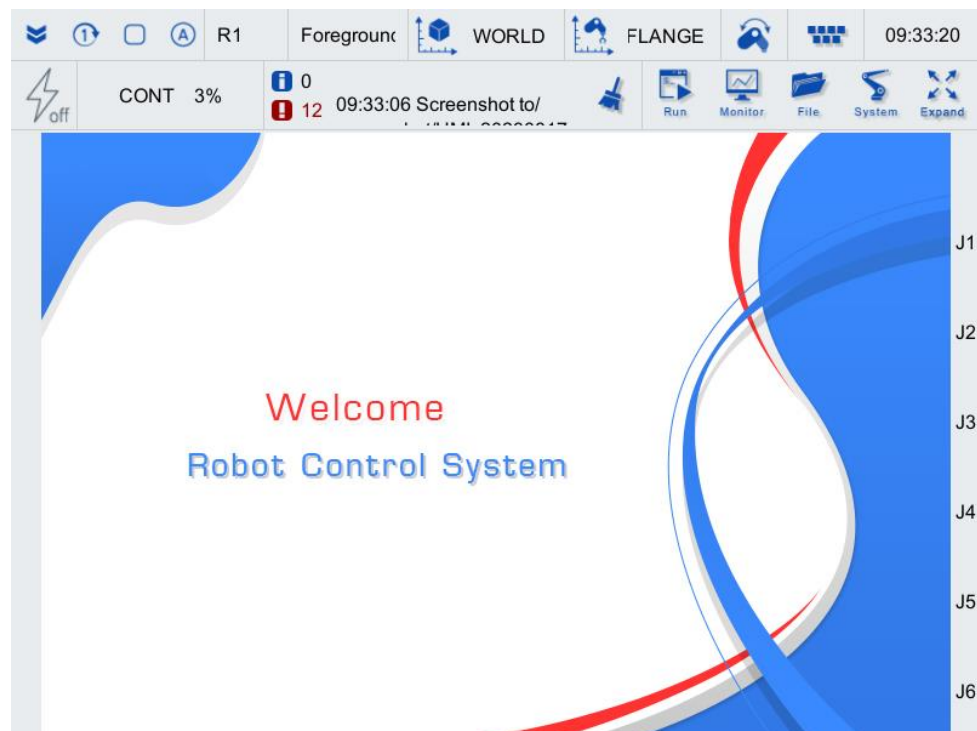

Figure 5-18 Teach pendant main interface
Step1. Log in to the teach pendant and you will see the main interface of the teach pendant as shown in Figure 5-18.